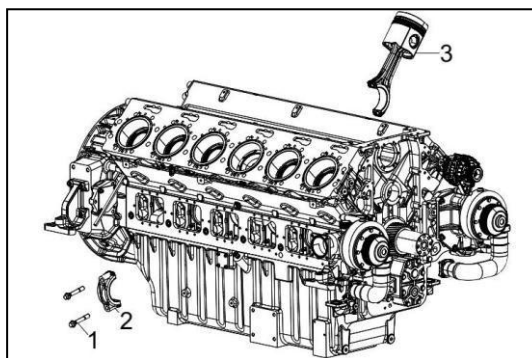

Figure 96
7. Crank the engine so that the upper fixing bolts of the cap of the connecting rod to be removed is in line with the inspection door opening. Loosen and remove the connecting rod bolts (Figure 96, 1).
8. Remove the connecting rod cap (Figure 96, 2) with the lower half bearing.